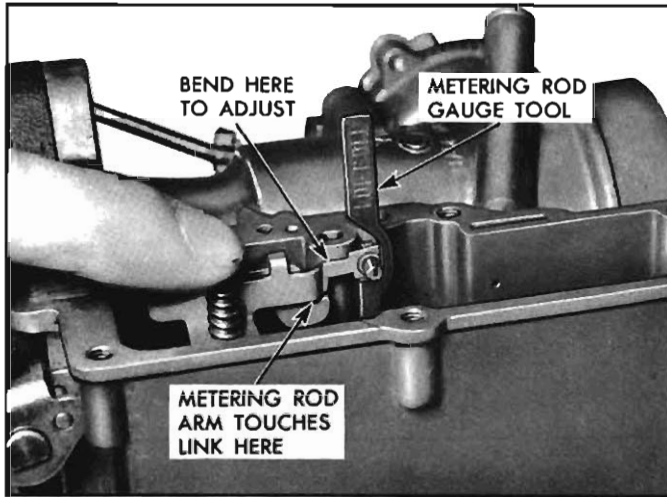

Fig. 37—Adjust Metering Rod Arm
- b. Remove metering rod from carburetor and place gauge tool J-21056 in metering jet (fig. 37).
- c. Push down on pump diaphragm rod until the metering rod arm just touches the lifter link (fig. 37).
- e. If necessary, adjust by bending metering rod arm at point shown in Figure 37.